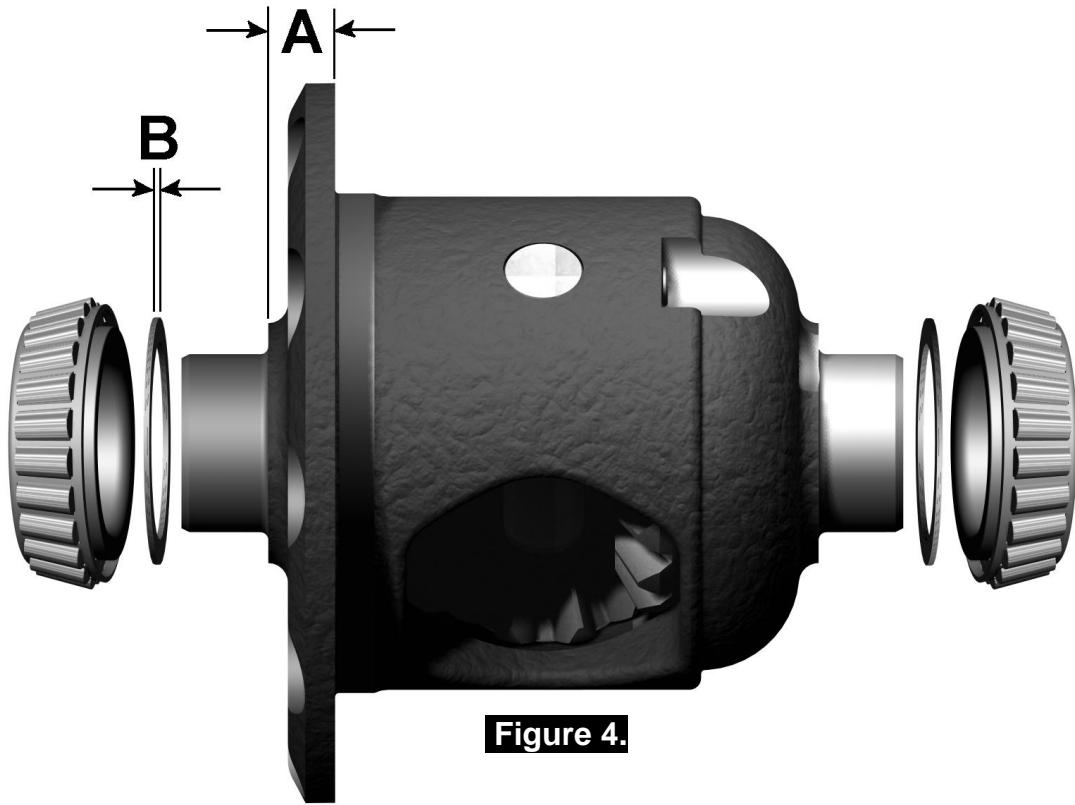
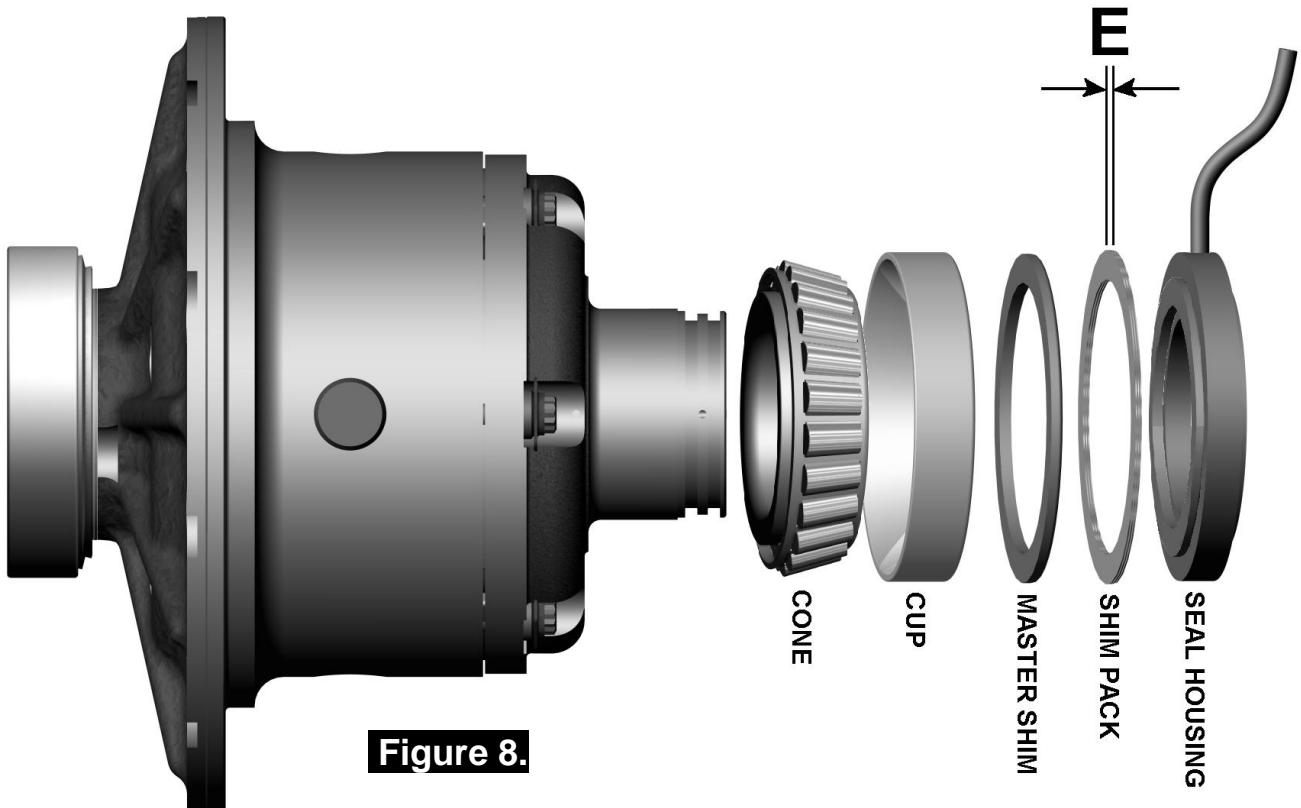

Figure 4.
Figure 8.
- Using a caliper or similarly accurate measurement method (i.e., able to take accurate measurements within 0.04mm [0.0015"]), measure the distance from the bearing shoulder to the ring gear mounting face (shown as 'A' in Figure 4.) and record this measurement as 'A'.
- Measure the thickness of the shim pack removed from the ring gear side of the differential carrier (shown as 'B' in Figure 4.) and record this measurement as 'B'.
- Place the bearing cup over the bearing cone (Figure 8.).
NOTE : The shim pack cannot be installed at this time as the required thickness (shown as 'E' in Figure 8.) has yet to be determined.
- Slide the seal housing into place against the bearing cup (the master shim should be facing the bearing cup as in Figure 8.).
- Add the specified pre-load amount to the measurement taken with the feeler gauge to determine a shim amount for 'E' in Figure 8.
- Remove the *Air Locker* and assemble the shim pack onto the seal housing spigot behind the master shim (Figure 8.).
- To increase the amount of backlash, reduce the shim thickness 'D' (Fig. 4.) and increase the shim thickness 'E' (Fig.8.) by the same amount. Reverse this step to decrease the backlash.
- To increase the amount of backlash, reduce the shim thickness 'D' (Fig.5.) and increase the shim thickness 'E' (Fig.8.) by the same amount. Reverse this step to decrease the backlash.